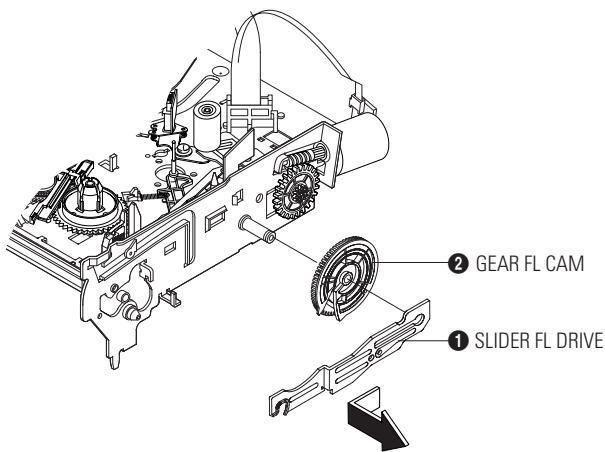

Fig. 1-6 Slider FL Drive Removal
- 1) Pull the Slider FL Drive ❶ to the front direction.
- 2) Remove the Slider FL Drive ❶ in the direction of arrow. (Refer to Fig. 1-6)
- 3) Remove the Gear FL cam ❷.